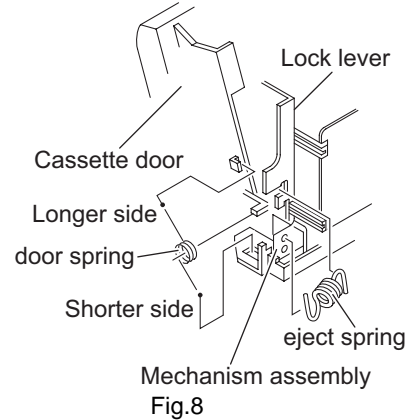

Fig.8
- (3) Remove the arm shaft of the cassette holder (door assembly) from the mechanism holder. (The door spring is engaged with the door side by the longer side.) (See Fig.8)
- (4) Remove the eject spring from lock lever and mechanism assembly. (See Fig.8)